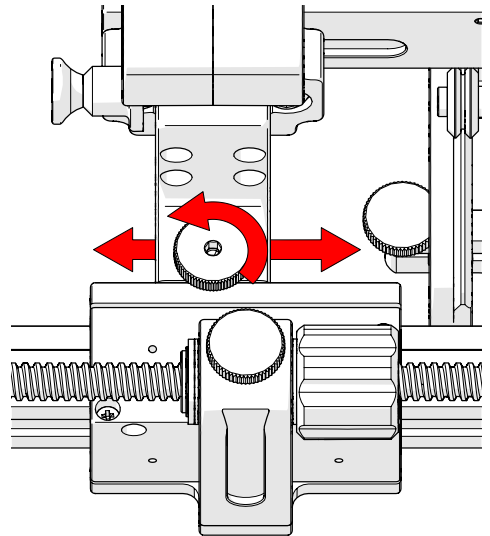

Fig. 207 - Mount to slider pps
3. Loosen the knob to position the probe holder horizontally along the slider pps slider (Fig. 207). Tighten the probe holder adjustment knob when positioning is complete.